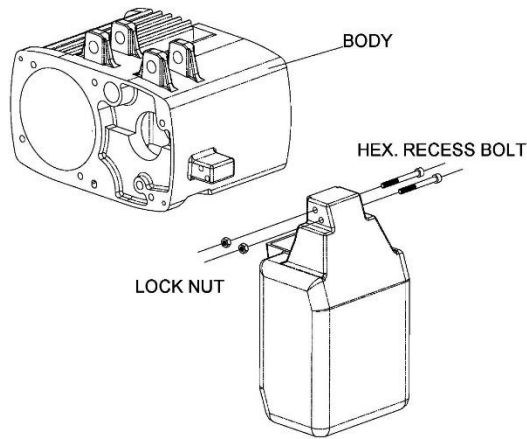

Figure 9-3
3. Mount chain container to hoist undercarriage, using two bolts with lock nuts. See Figure 9-3.